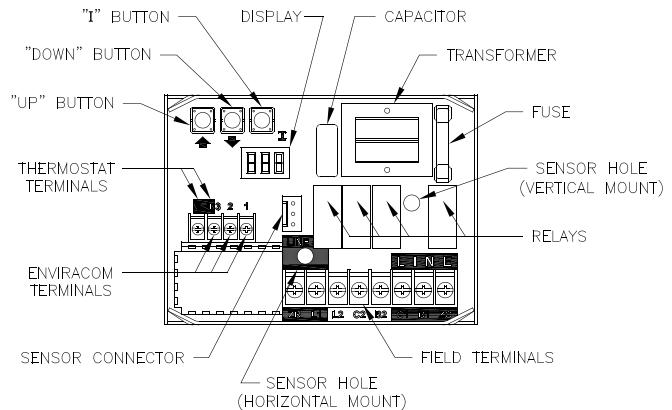

Figure 20: Intelligent Oil Boiler Control
- b. The boiler's sequence of operation is shown as Status Codes on Boiler Control display. See Table 6 and Figure 20.
- d. If the thermostat is not satisfied and the Operating Setpoint (SP) is reached the system circulator will continue to operate and the burner will stop. When the boiler water temperature drops below the setpoint less the differential setting the burner will restart.
- f. When an indirect water heater aquastat call for heat is wired to the "ZR" terminal the Boiler Control starts a domestic hot water circulator connected to the "ZC" terminal and when the boiler temperature is less than Operating Setpoint (SP), the boiler control energizes the oil primary to turn on the burner without circulator pre-purge delay.
- g. On burner start, if the CAD cell does not see flame within approximately 15 seconds, primary control will shut down the burner and enter into a lockout mode. A lockout is reset by pressing the reset button located on the primary control. If the flame is lost while the burner is firing, the primary control shuts down the burner, enters a 60 second recycle delay, and repeats the ignition sequence. If after three (3) trials for ignition, flame is not detected, primary control will enter into restricted mode. Restricted mode is reset by holding down the reset button for 15 seconds.